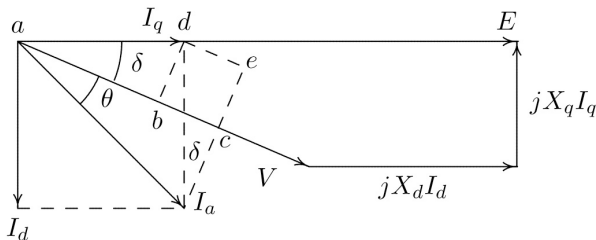

Figure 1: Phasor diagram for a salient-pole generator.
- ① Along the direct axis, and
- ② Along the quadrature axis
- It is noted that an Ampere in the direct axis direction will produce more voltage than an Ampere in the quadrature direction (due to the difference in magnitude between X_d and X_q , illustrated in Figure 1.
Now from the phasor diagram in Figure 1,